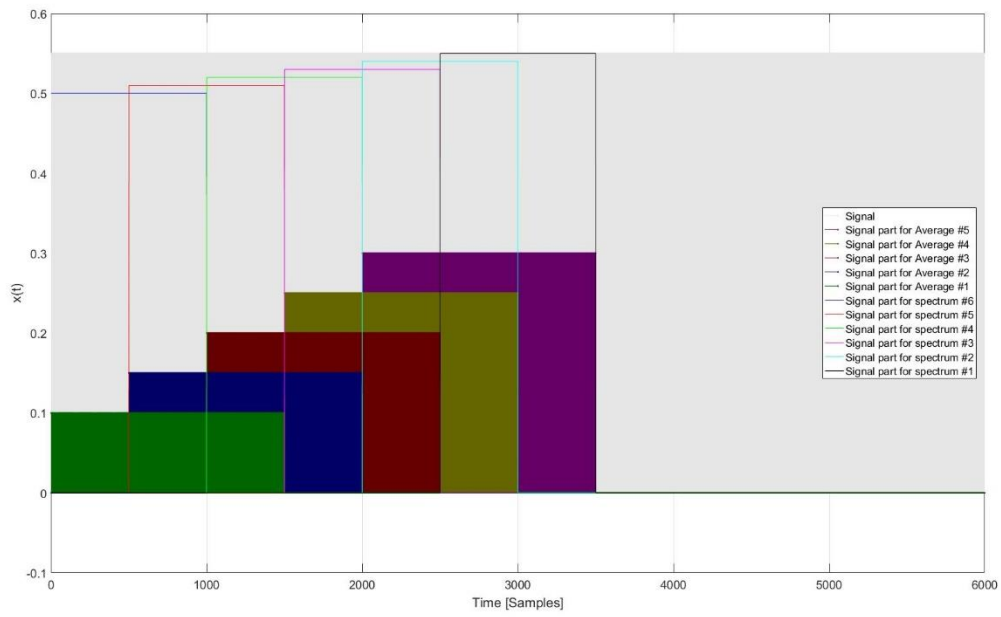

Figure 6-60: Decomposition of the time signal for a Periodogram with an average of 2 spectra and 50% overlapping
- Figure 6-60: periodogram with an average of 2 spectra and 50% overlapping (50 Samples)